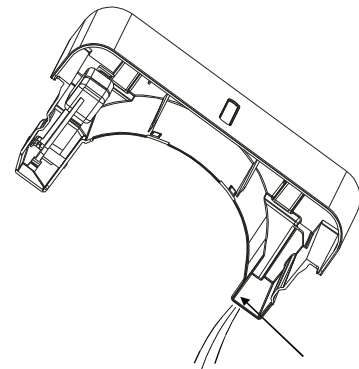

Fig. 7
- Throw away the water from the water outlet (See Fig.7) and replace the bucket. The bucket must be in place and securely seated for the dehumidifier to operate.